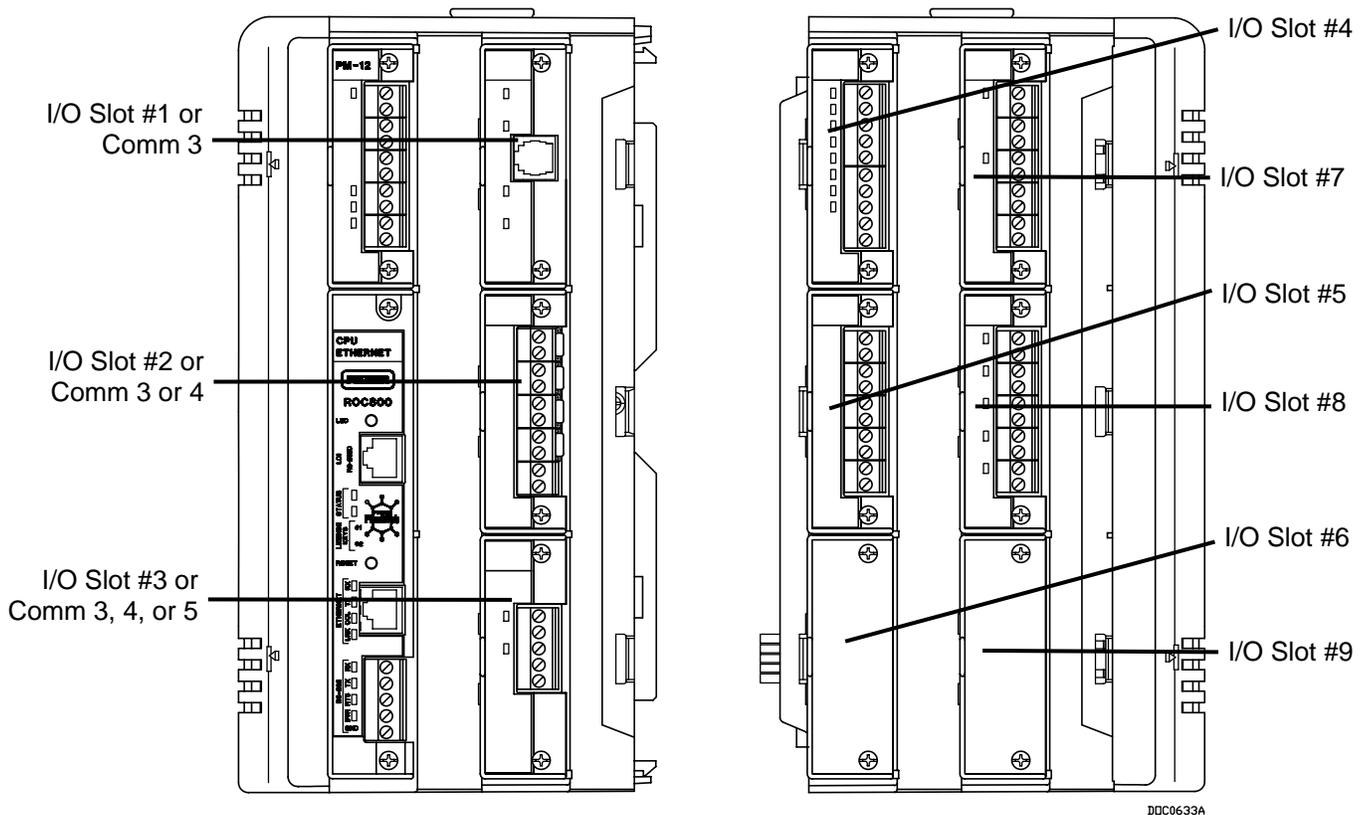

Figure 4-2. Optional I/O Module Locations (ROC827 with one EXP)
**Note:** Figure 4-2 represents a ROC827 with one EXP.